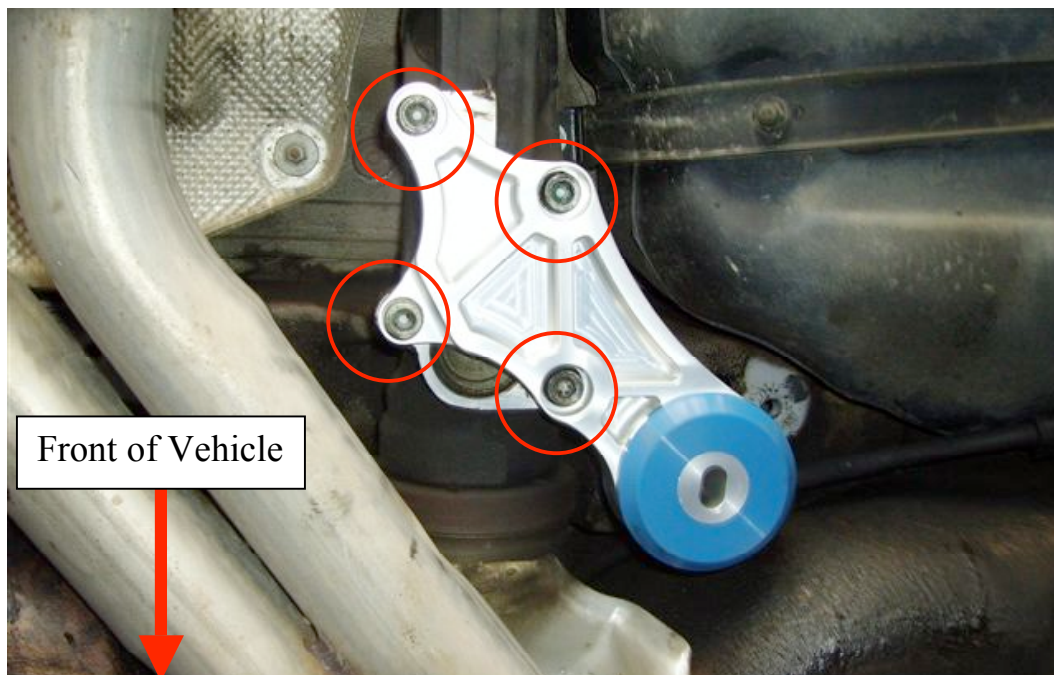

Figure 6
- 3) Install the Apikol rear differential mount as depicted in Figure 6. Torque the 4 8mm drive hex bolts to 30 lb-ft.